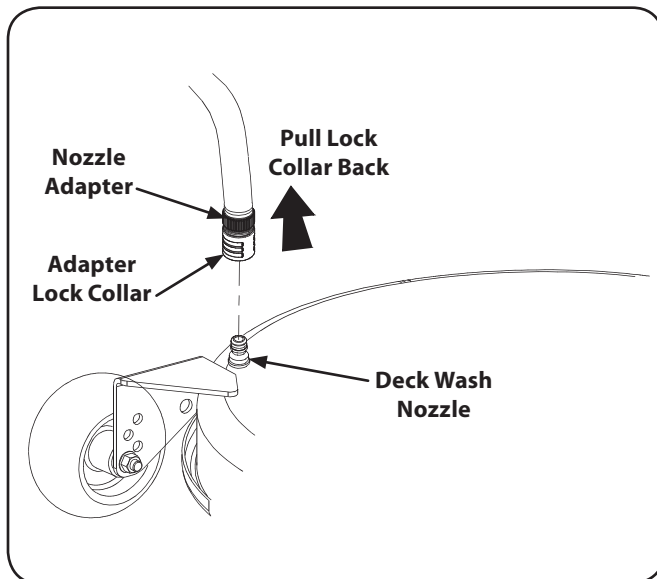

Figure 6-2
3. Pull back the lock collar of the nozzle adapter and push the adapter onto the deck wash nozzle at the left end of the 42" mower deck, or onto one of the deck wash nozzles at either end of the 50" mower deck. Release the lock collar to lock the adapter on the nozzle. Refer to Figure 6-2.